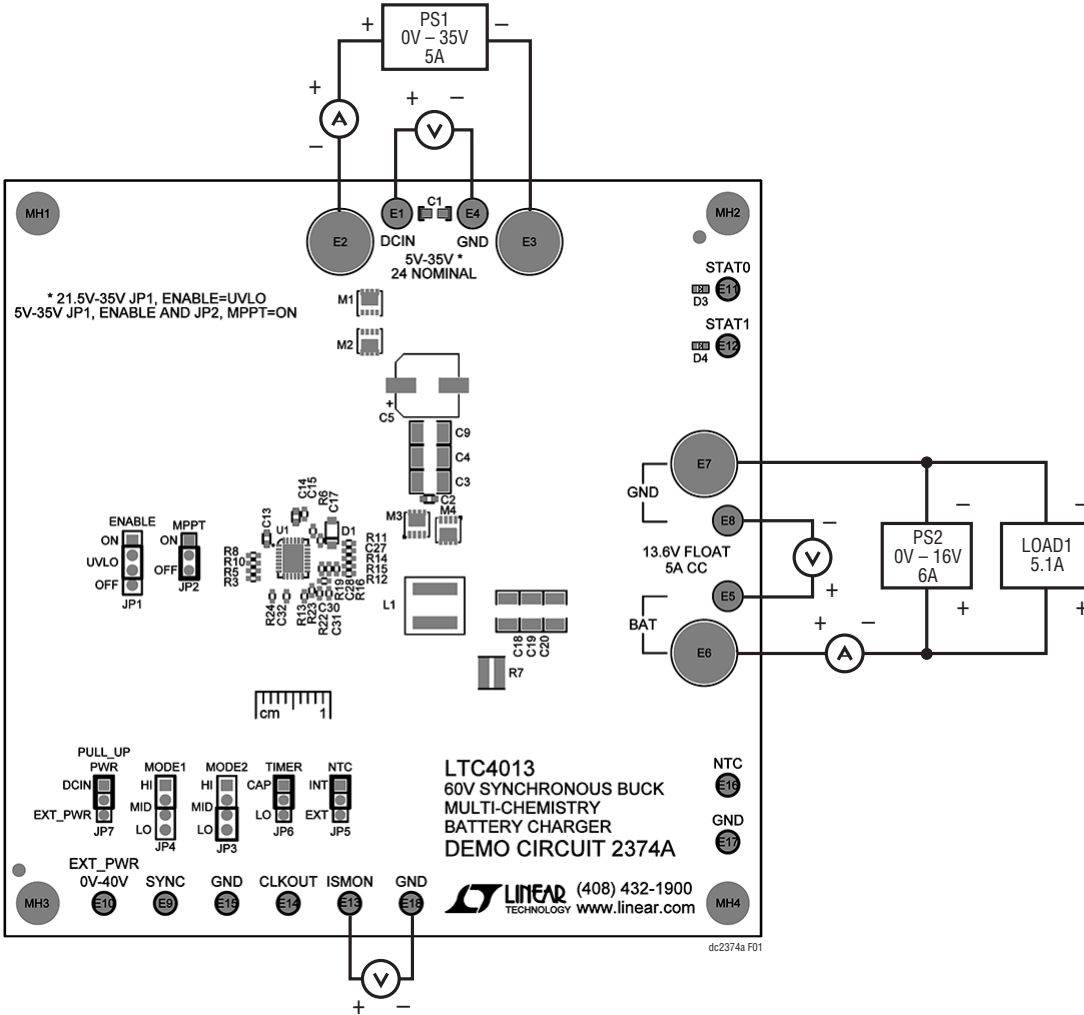
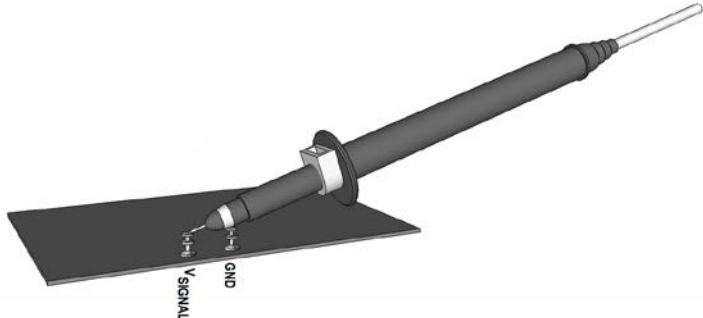

Figure 1. Proper Measurement Equipment Setup
Figure 2. Measuring Input or Output Ripple
The DC2374A is easy to set up to evaluate the performance of the LTC4013. Refer to Figure 1 and Figure 2 for proper measurement equipment setup.
NOTE: When measuring the input or output voltage ripple, care must be taken to avoid a long ground lead on the oscilloscope probe. Measure the input or output voltage ripple by touching the probe tip directly across the V_{IN} or V_{OUT} and GND terminals. See Figure 2 for proper scope probe technique.
2. With power off, connect a 0V to 16V, 6A power supply (PS2) to BAT and GND terminals with a series ammeter and a voltmeter as shown in Figure 1.
3. With power off, connect a 5.1A load (LOAD1) to BAT and GND terminals in parallel with PS2 as shown in Figure 1.
5. With power off, connect a 0V to 35V, 5A power supply (PS1) to DCIN and GND terminals with a series ammeter and a voltmeter as shown in Figure 1.